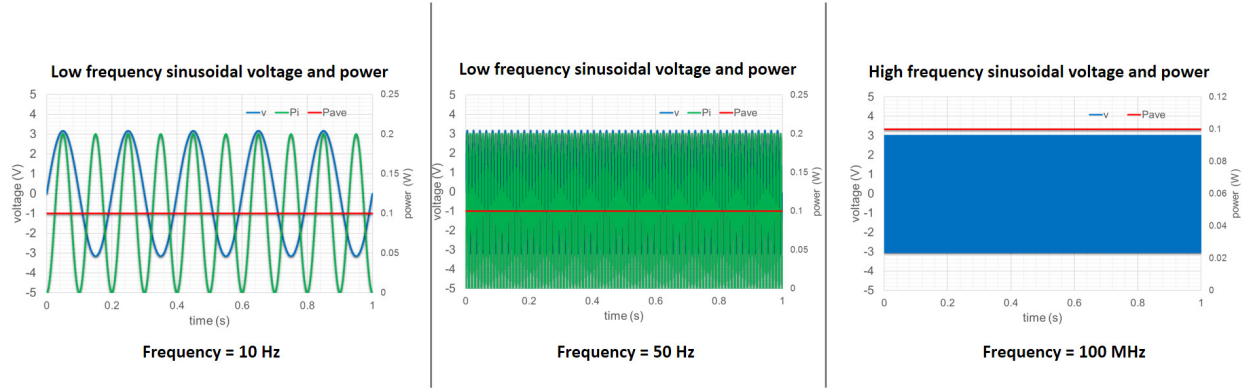

Figure 2-2. Low and high-frequency power measurements
However, as frequency increases, voltage and current measurements become difficult and impractical, so engineers measure power directly. Figure 2-2 represents three continuous waves (CW) with the same voltage level but different frequencies. P_i (green curve) is instantaneous power and it varies with time, while P_{avg} (red line) is average power. Notice that average power remains constant and independent of frequency which is suitable for high-frequency signals. Let's take a closer look at different definitions of power for RF measurements.